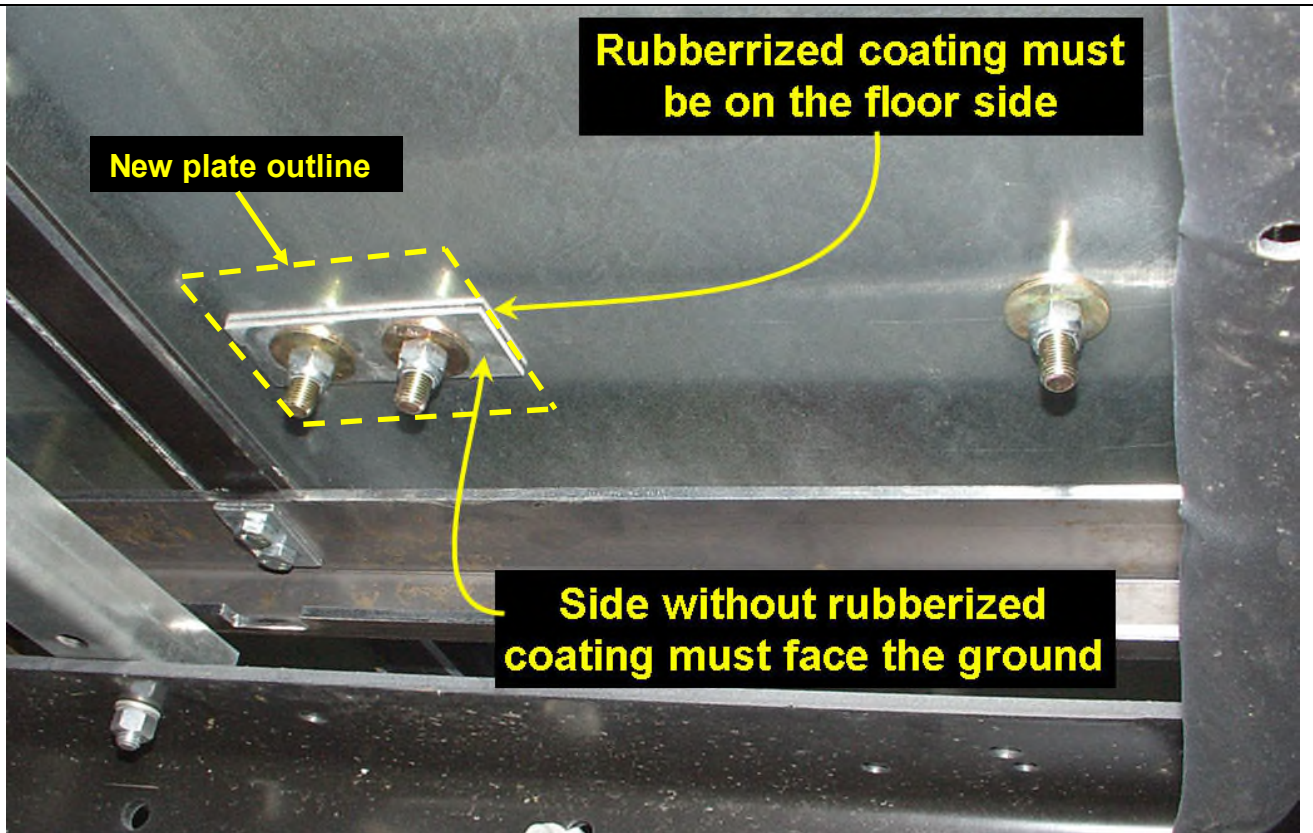

Figure 2: View from underside the floor – Correct way to install the bolting plate
****Note:** During the installation of the bolting plate, it is important for the rubberized coated side to be placed towards the floor (figure 2).